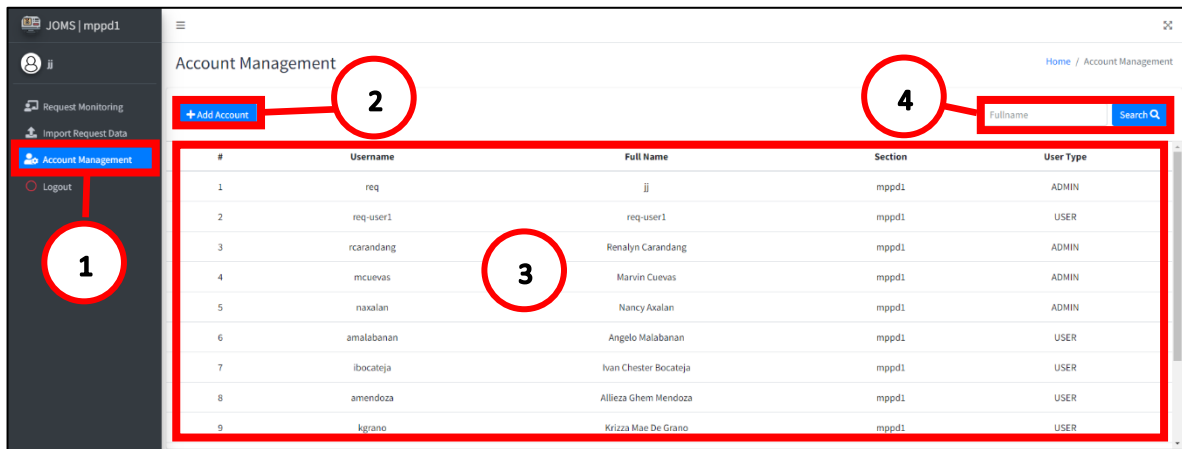

Figure 3.4
1. Click the Account Management (See Figure 3.4).
2. Click Add Account and create an account (See Figure 3.4).
3. View data table for your accounts. To Update, Click the data you want to UPDATE, or DELETE the account (See Figure 3.4).
4. Search accounts by full name (See Figure 3.4).